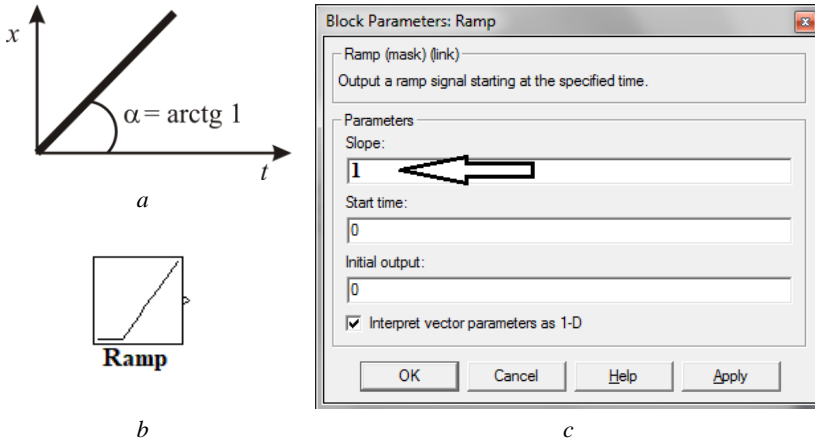

Figure 1.16 – Linearly increasing signal, its icon as the Ramp block and setting data in the Ramp block
- the input signal, the **linearly increasing signal** starts at a specified time and changes by a specified rate, as shown in Figure 1.16,*a*.
The linearly increasing signal is described by the equation $x(t) = 1 \cdot t$ and is set by the Ramp block. Ramp block icon is shown in Figure 1.16,*b*.
Set the data in the **Block Parameters: Ramp** as shown in Figure 1.16,*c*: